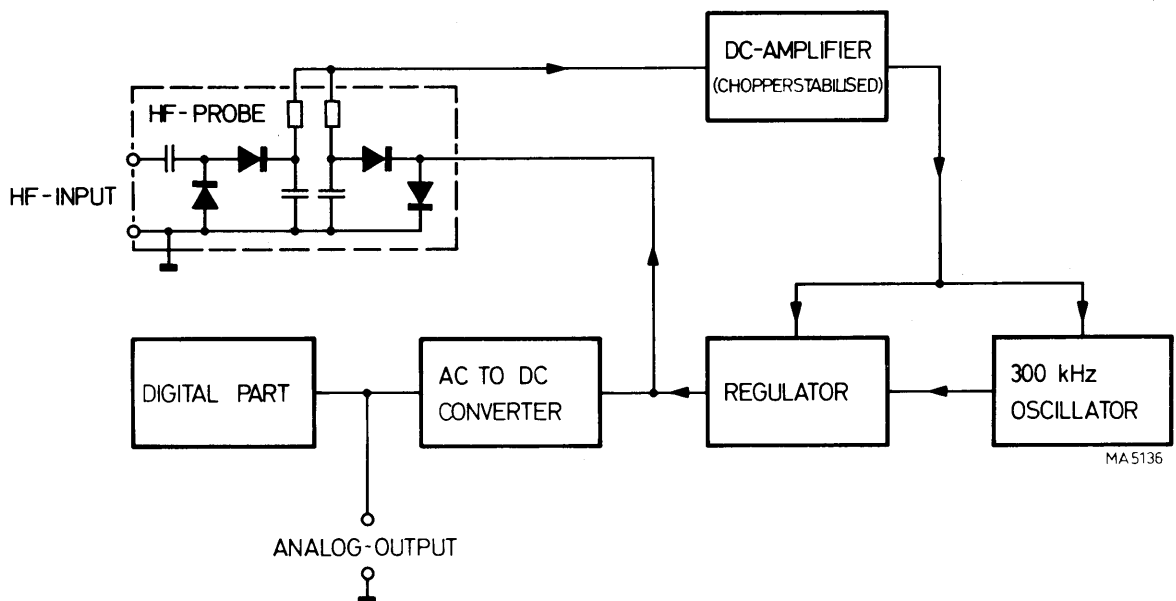

Fig. 8. Circuit for H. F. measurements
3. H. F. voltage measurements (Fig. 8)